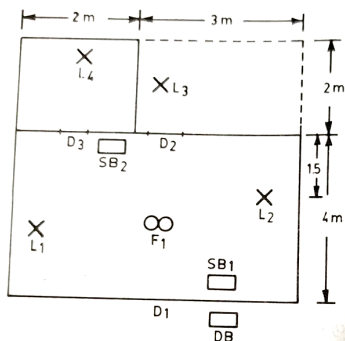

Fig. 2
11. The Figure 2 shows the plan of small flat. The flat is to be provided with electrical connections. The positions of light and fan points and switch boards have been shown in the figure 2.
- Estimate the quantity of material, its cost and labour cost for PVC Conduit wiring system. In figure 2 D1, D2, D3 represents doors.